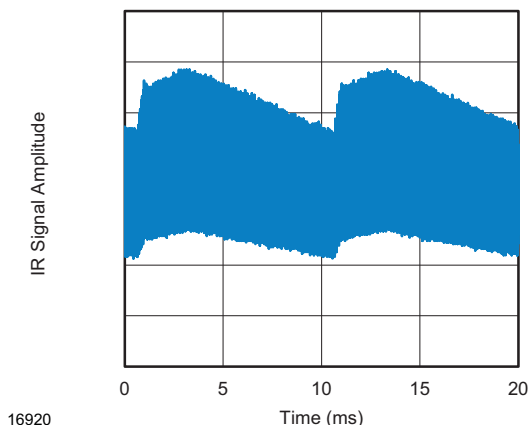
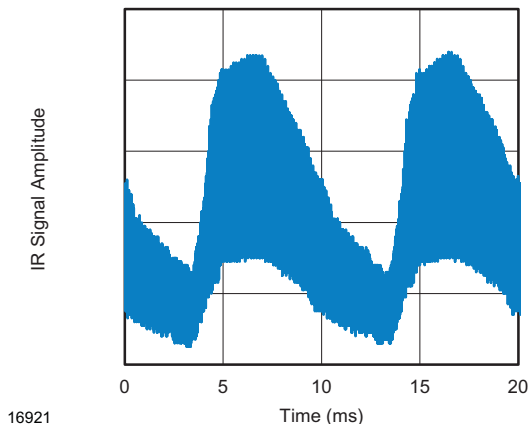

Fig. 13 - IR Signal from Fluorescent Lamp With Low Modulation
Fig. 14 - IR Signal from Fluorescent Lamp With High Modulation
- Strongly or weakly modulated patterns from fluorescent lamps with electronic ballasts (see Fig. 13 or Fig. 14)